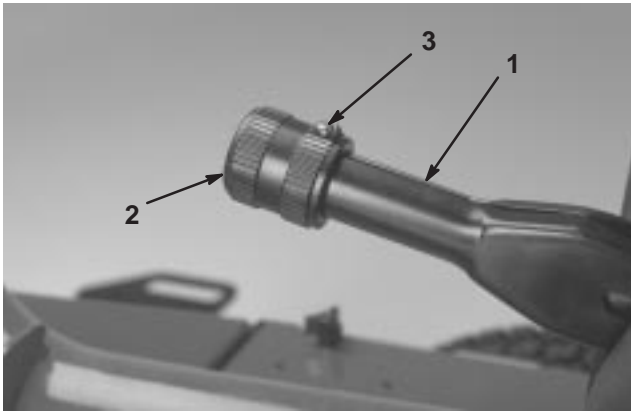

Figure 56
1. Loosen the set screw securing the knob to the parking brake lever (Fig. 56).